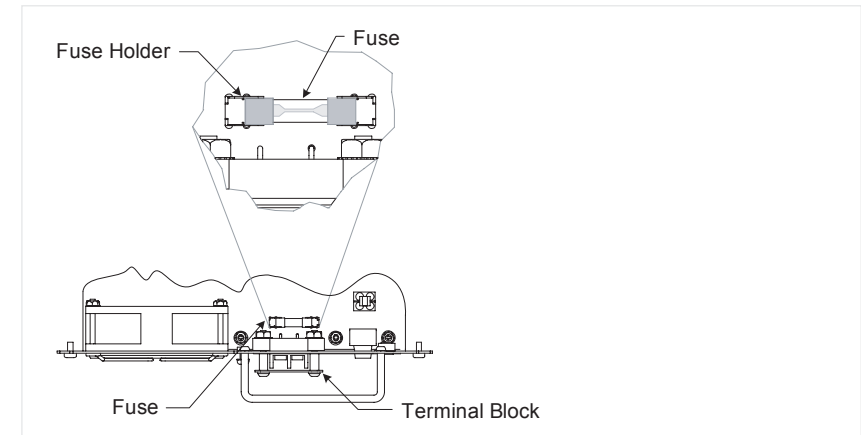

Figure 13: Fuse Holder Containing Fuse
5. Carefully remove the fuse from the fuse holder, shown in Figure 13.
9. Re-install the two (2) 6-32 philips head screws to secure the power supply to the chassis.